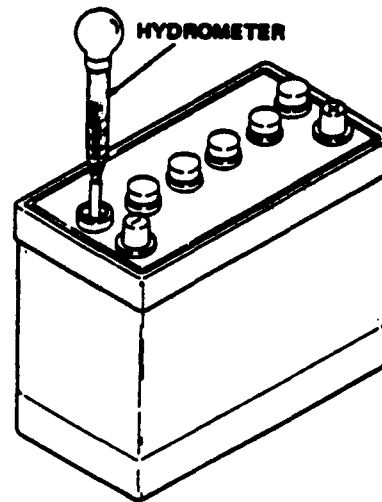

Figure 4-17. Testing Batteries
(1) Test. Charge battery for a sufficient time for battery to be fully charged (1 to 2 hours). Test each cell of battery separately using a hydrometer. Remove cap from one cell and draw fluid from that cell into hydrometer. Hydrometer must register a specific gravity of 1.260 to 1.280. If specific gravity is below 1.260, charge battery. See figure 4-17. Replace fluid into cell and replace cap. Check each battery cell using this procedure. If one or more cells in a battery will not take a charge, replace battery.
(2) Remove. Remove battery cables and top frames, a and b above. Remove batteries from battery frame.
(3) Replace. Place batteries in battery frame with negative (-) terminals toward control panel end of generator and positive (+) terminals toward blower housing end of generator. Install battery top frame and battery cables as outlined above.